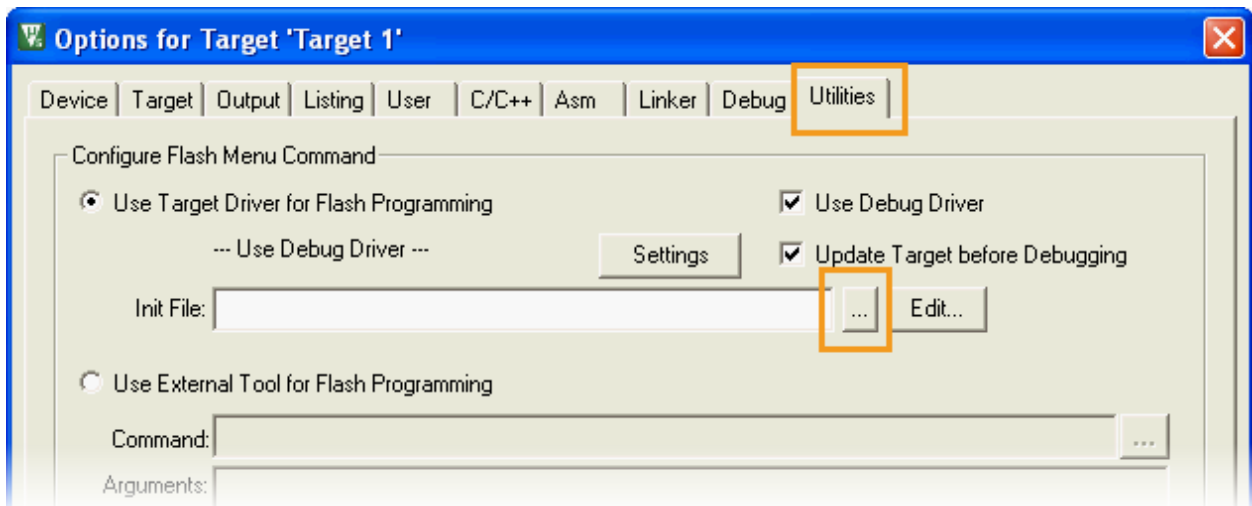

Figure 47. Select configuration file
- 4) Select **Utilities** tab, then browse for the **Init File**. Select the file and press **Open**. The configuration file for the SDK is named as `flash.ini` and located under `<sdk_root>\tools\keil\mt7687`, as shown in Figure 47.